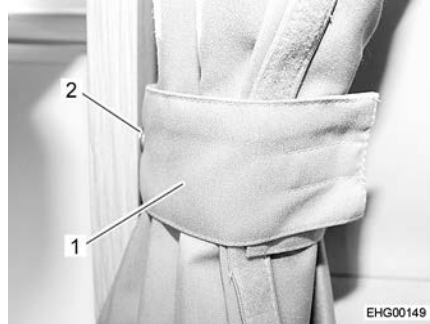

Fig. 13 Curtain shade, secured
- Secure both halves of the curtain shade with the loop (Fig. 13,1) and snap fastener (Fig. 13,2).